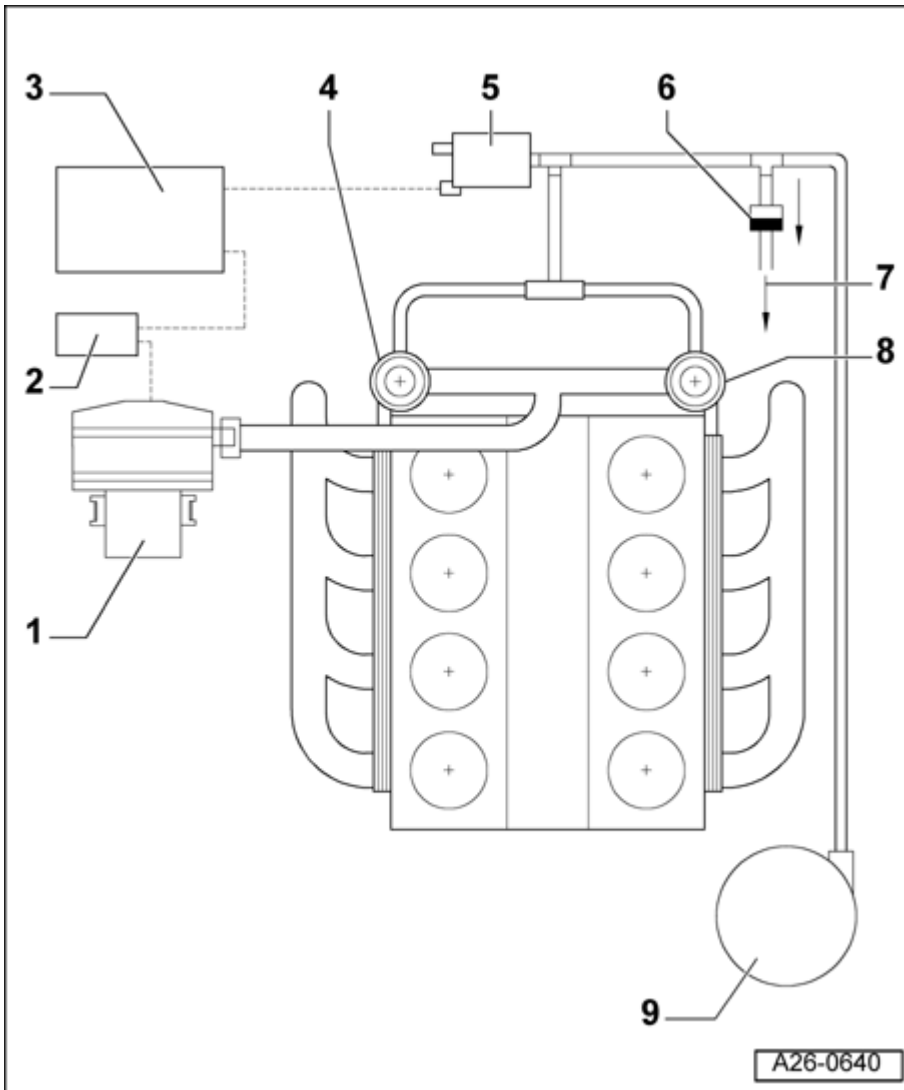

Fig. 628: Secondary Air Injection (AIR), Component Overview
- Installed location: Arrow points in direction of flow, as shown in **Fig. 628**.